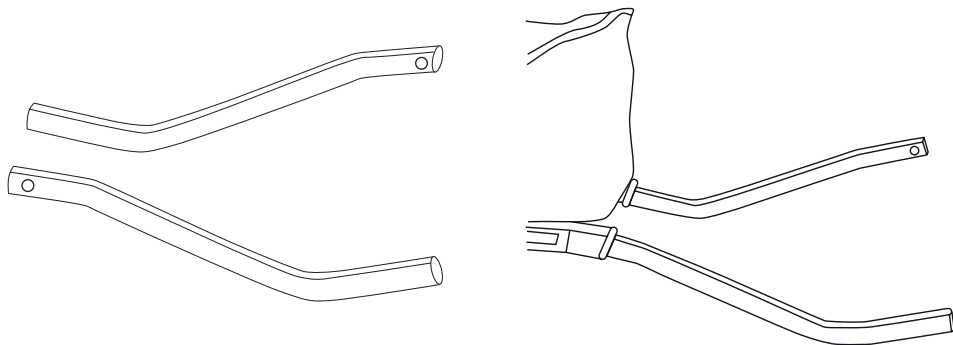

Fig. 10
- a) 871.50 HANDLES and 871.51 GRIPS (figures 10 and 11),